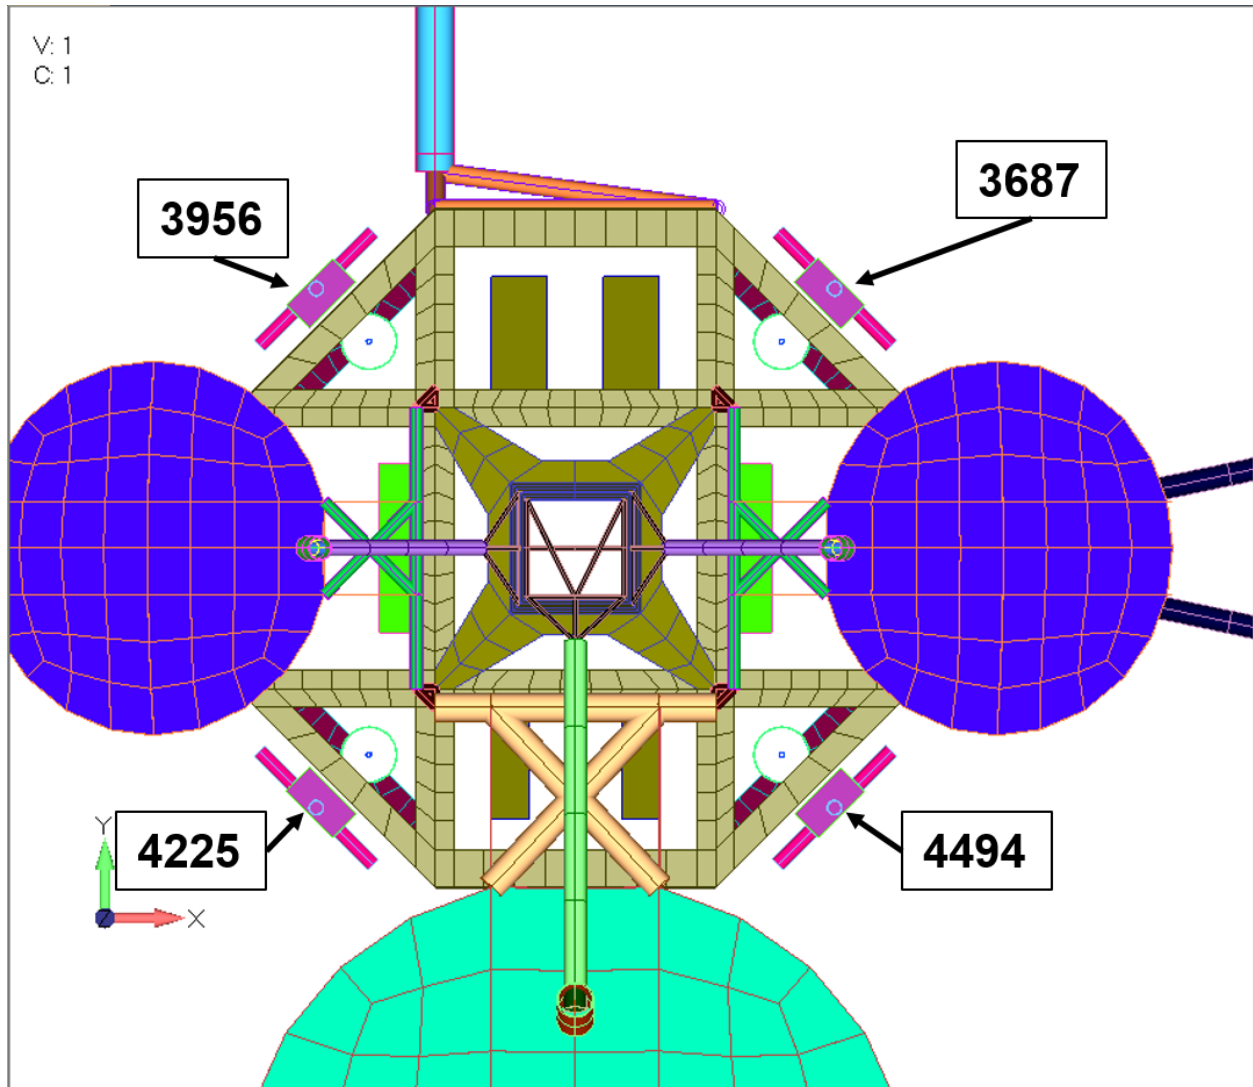
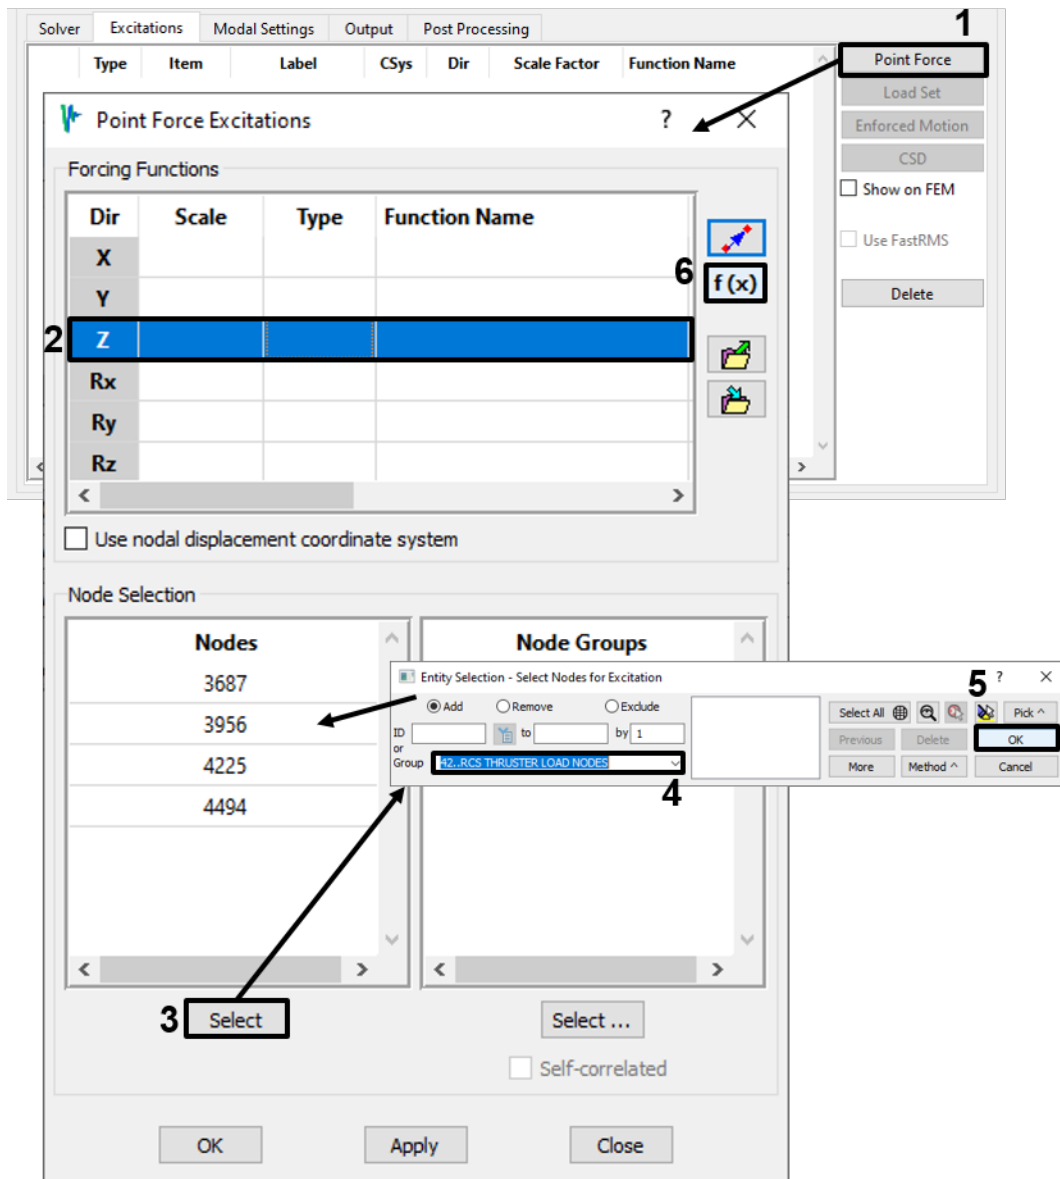

Figure 4-93. Nodes for RCS thruster loads.
Figure 4-94. Use the Point Force dialog to assign a Z-direction force to each thruster node.
4. The RCS system will fire a pulse to translate the spacecraft along its Z-axis, let it drift for half a second, then fire a reverse pulse to stop its translation. We will simulate this by applying a point-force excitation at each RCS thruster node (Figure 4-93). On the Excitations tab, bring up the Point Force dialog (Figure 4-94). Select the individual thruster nodes as shown, highlight the Z-direction row in the Functions table, and click **f(x)** to bring up the Function Manager.